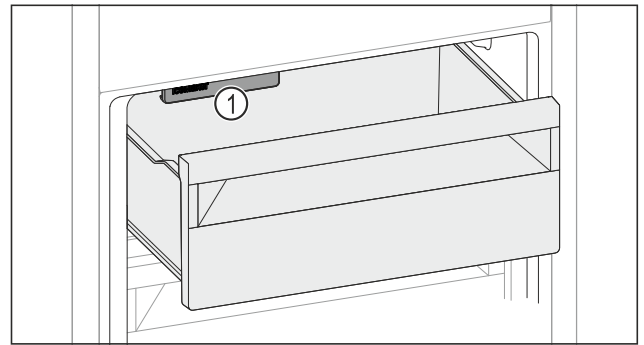

Fig. 119
- ▶ Pay attention to the IceMaker Fig. 119 (1).